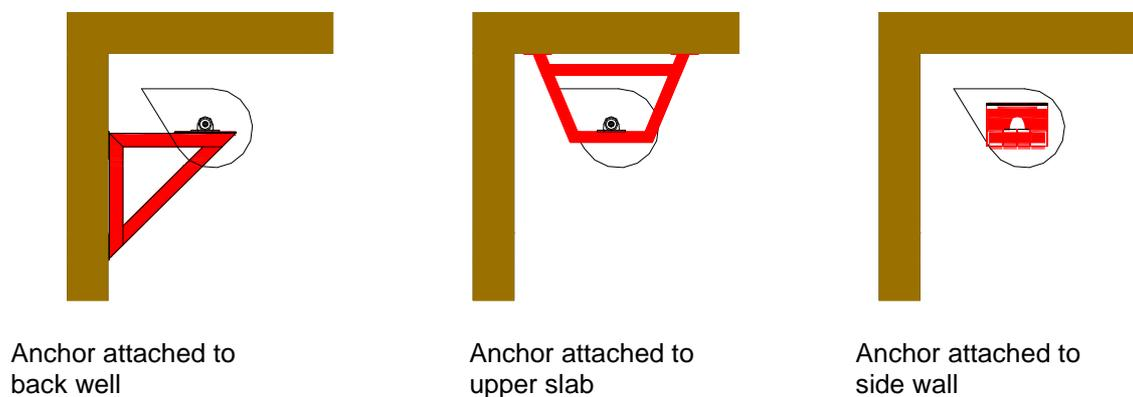

Figure 4: Types of supports
2. Supports: The supports of the cleaners can be attached to the back well, to the upper slab or to the lateral walls, depending on the design of the tank. See Figure 4 below